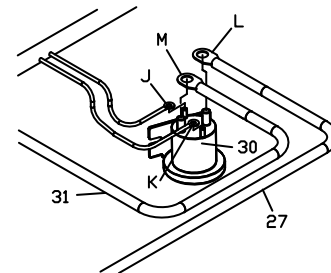

**Figure 9.** Dash Bracket w/ Molex Plug & Cap G10526
1. Pull the 9 Pin Molex connector (G) from under the hood, into the cab.
2. Secure the 9 Pin Molex Connector (G) to the left of the steering wheel using two self tapping bolts and provided dash bracket. (Some vehicles use existing hardware. See figure 9)